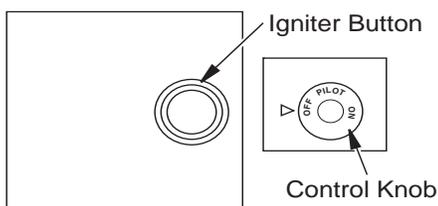

Figure 38 - Control Knob and Igniter Button Location
5. Wait five (5) minutes to clear out any gas. Then smell for gas, including near the floor. If you smell gas, STOP! Follow "B" in the safety information, column 1. If you don't smell gas, go to the next step.
6. Press in and turn control knob counterclockwise  to the PILOT position. Press in control knob for five (5) seconds (see **Figure 38**).